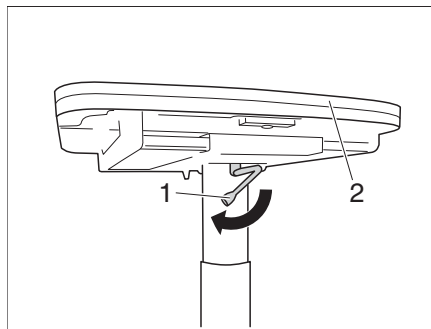

Fig. 99 Lowering the table
- Swivel the catch lever (Fig. 99,1) to the left. The lock is open.
- Press the table-top (Fig. 99,2) downwards in the middle and keep it pressed.
- Swivel the catch lever (Fig. 99,2) to the right. The lift-off table is locked.